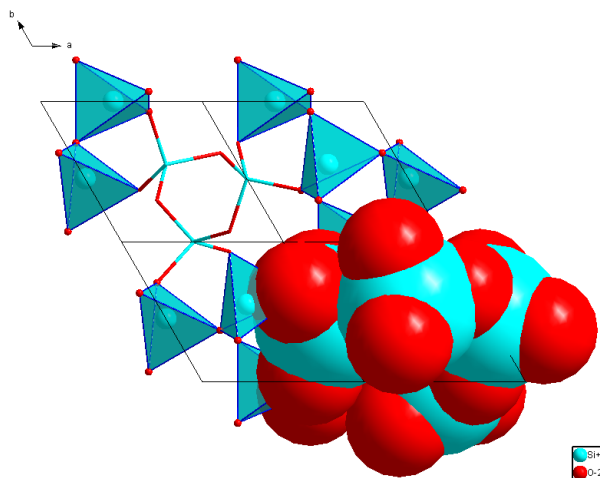

Fig. 20: Three models in the same structure picture reveal different aspects of the crystal structure of quartz.
order to release the current selection. As you see, the network consisting of four-bonded (Si) and two-bonded (O) atoms clearly becomes visible (fig. 20).